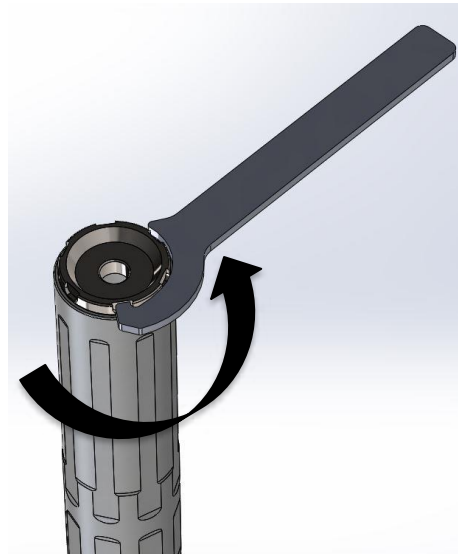

Figure 2: Turn spanner wrench to remove end cap.
- (1) Remove the endcap with the spanner wrench provided (figure 2).